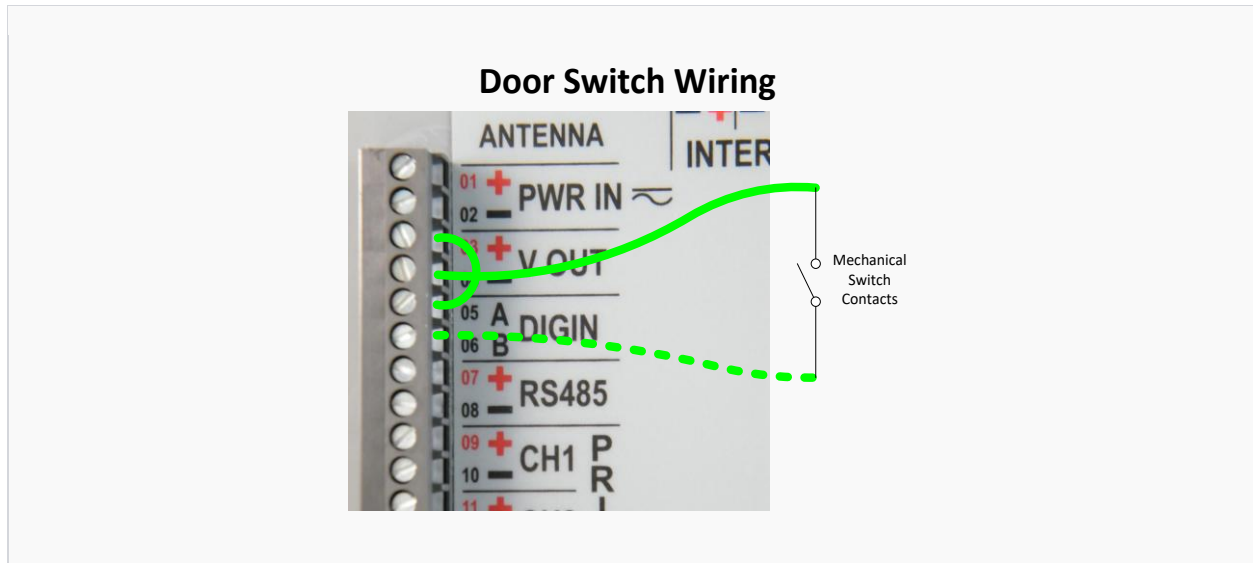

Figure 16 RMU3X-B Door Switch Wiring
- Connect a jumper wire between the VOUT+ and the DIGIN-A terminal; attach the switch contact connections to the VOUT- and DIGIN-B terminals as shown in Figure 16.